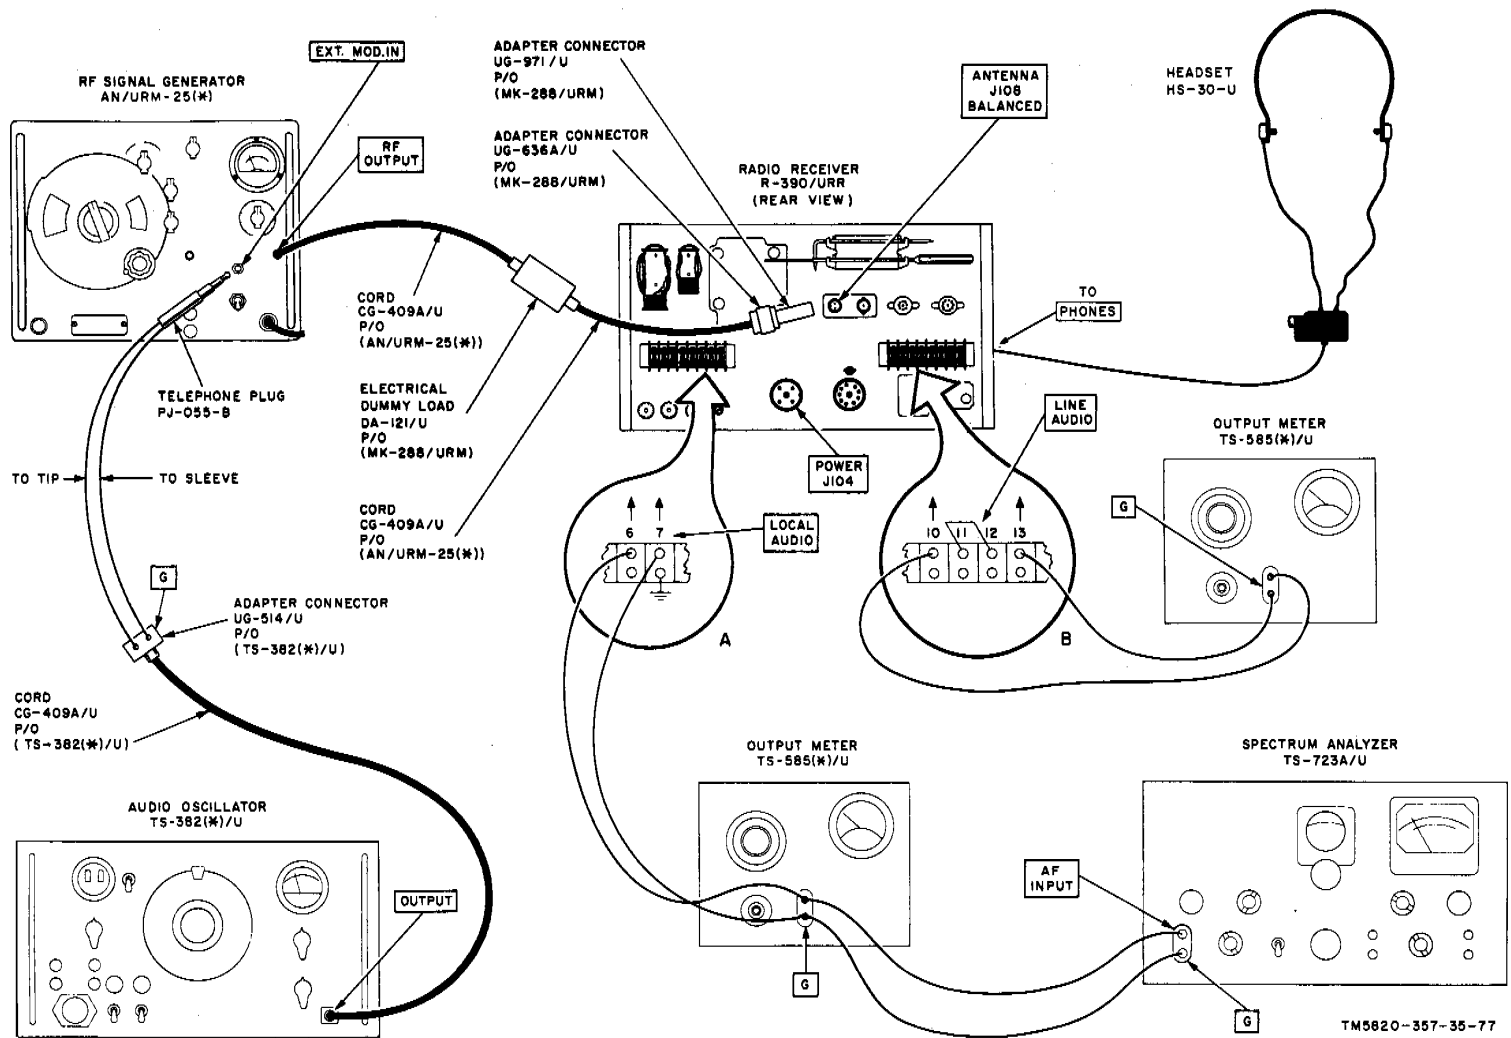

Figure 52. Audio distortion test setup.
(fig. 52)
*b. Test Connections and Conditions.* Connect the equipments as shown in A, figure 52. Turn Spectrum Analyzer TS-723A/U on and allow it to warm up for at least 15 minutes.